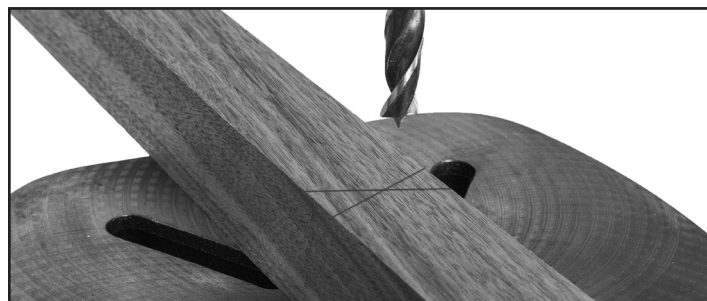

FIG. 26
7. Turn the knurled housing of each of the lasers to position the beams exactly onto the drilled hole in the board. The two beams should form cross hairs. Once set, secure the lasers in position by re-tightening the hex screws that were loosened in step 6. The lasers are now calibrated and the X-Y cross hairs will indicate the center spot for future drilling. FIG. 26.